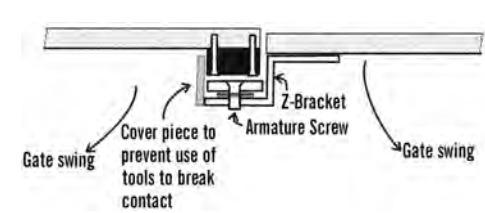

FIG. 5 - Basic Installation
- Mount the electromagnet (fig. 5) — In most cases, the position of the electromagnet will determine the location of the armature plate. Make sure there is space to run the cable.
- C. Mount the armature (fig. 5) — Once the electromagnet is mounted, determine the correct position of the armature. Use the appropriate L-bracket or Z-bracket to position the armature so that it will lay against the electromagnet when activated. However, leave a slight gap between the two so that the armature does not slam against the electromagnet when the gate is closed.